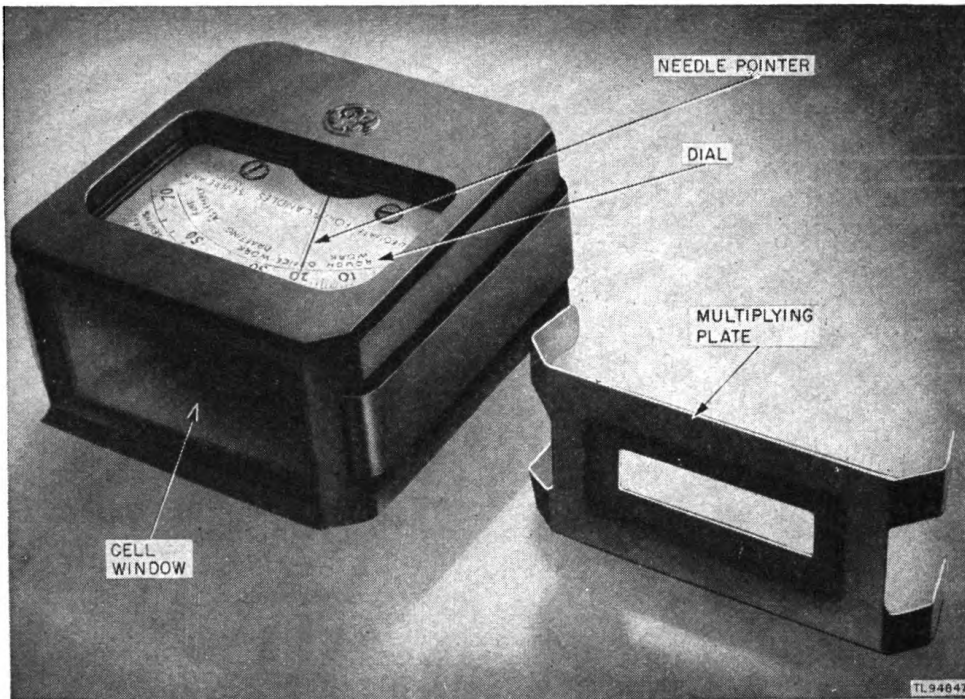

Figure 3. Light meter with multiplying plate.
c. MULTIPLYING PLATE (fig. 3). The multiplying plate is used for readings above 75 foot-candles and is considered a part of the unit. This thin metal plate has four clamps designed to fit the beveled case of the meter. The rectangular slit through which light reaches the cell is recessed to form a light trap and to prevent extraneous light from interfering with the reading. The multiplying plate clips over the light-sensitive cell when